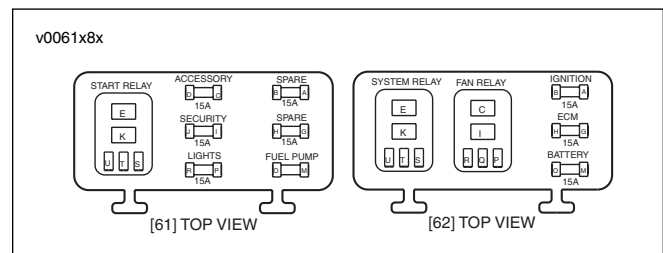

Figure 8-3. Relay/Fuse Block Layout (typical)
1. See Figure 8-3. Grasp the suspect fuse and gently pull straight out of the fuse socket.
1. See Figure 8-3. If a relay is diagnosed as defective, grasp the body of the relay and with a gentle rocking motion, pull straight out of the socket.